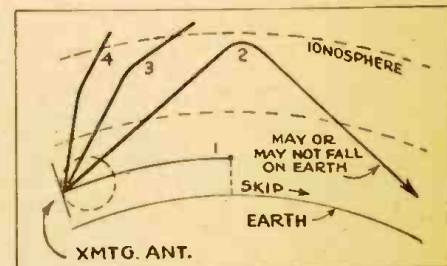

Fig. 4(d).—As the frequency increases, the higher-angle rays penetrate the Heavyside Layer, and those that return may miss the earth.
Let us now consider Figs. 4-A, -B, -C, and -D. We have shown in each a restricted cross-section of the Earth's surface, as represented by the long, curved lines, and the overlying Ionosphere, as represented between the two long, curved, broken lines. We also have our vertical antenna, as in Fig. 3, emanating 4 typical waves—the ground wave (1), and the low (2), medium (3), and high (4) angle waves.
In Fig. 4-A, the wavelength is very long (low frequency) as in commercial broadcast stations; in 4-B and 4-C the wavelength is shorter and shorter until in Fig. 4-D we have represented conditions obtaining at the ultra-short wavelengths, say, something of the order of 5 meters or so.
(1.) For a given wavelength, the higher the angle of radiation, the deeper it penetrates into the ionosphere, or, otherwise stated—the harder it is to reflect. Thus in Fig. 4-A, for example, the high-angle wave (4) penetrates deep into the Ionosphere before it finally gets sent back to Earth. The medium-angle wave (3) is reflected much sooner, while the low-angle wave (2) barely skims the lower level of the layer. Compare this with the other three figures.
(2.) For a given wavelength, the higher the angle of a reflected wave, the closer to the station it will return to Earth. Low-angle waves give better "DX" than high. In Fig. 4-A, again, we note that the high-angle wave returns to Earth much closer to the station than does the medium (3) wave, while the low-angle wave returns farthest away of all. Compare with the other figures.
(3.) For a given angle of radiation, the shorter the wavelength, the deeper into the ionosphere it penetrates; or the shorter the wavelength of a wave, the harder it is to reflect. Let us consider the medium-angle waves (3), for example. In Fig. 4-A, where the wavelength is long, it is easily returned to Earth; in Fig. 4-B (shorter wavelength), it is also returned, but not until it has penetrated much deeper into the Iono-